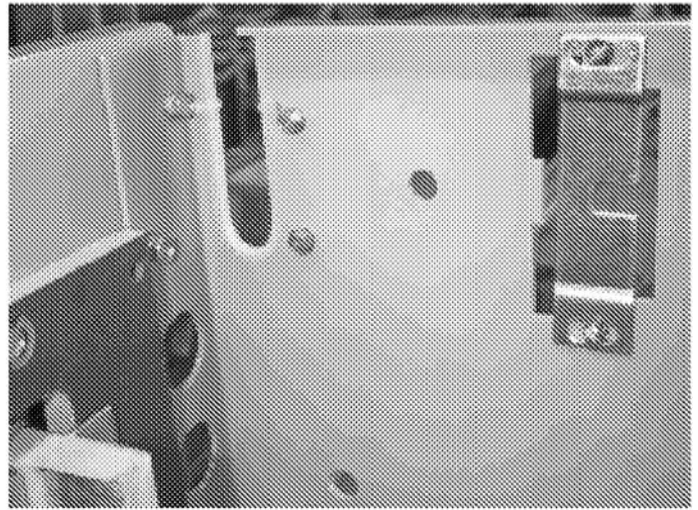

Figure 10. Inside rear corner of the Type 3 Draw-Out Substructure, showing the wire-exit hole and the Secondary Disconnect mounting slide.
2. Loosen, but do not remove, the two #10 screws holding the mounting slide, shown in Figure 10, just enough to loosen the slide. Move the slide forward in the Substructure to make room for the Secondary Disconnect mounting reel.